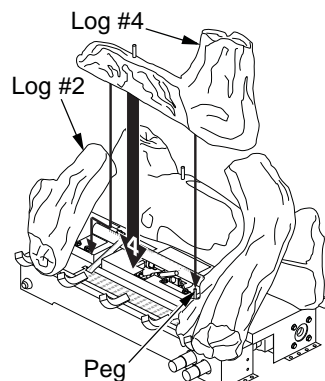
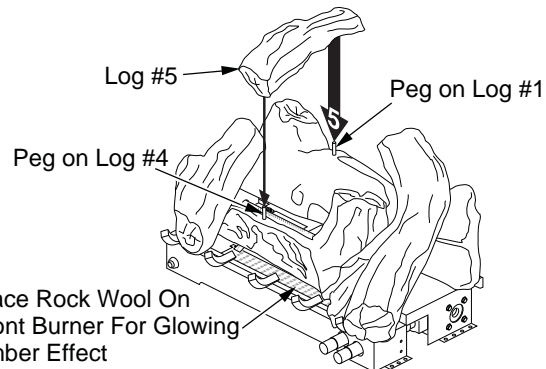

Figure 27 - Installing Front Log (#4)
Figure 28 - Installing Crossover Log (#5)
5. Align holes in bottom of crossover log #5 with pegs on top of rear log (#1) and front log (#4) (see Figure 27). It may be necessary to adjust log #4 to align holes with pegs. Place crossover log onto pegs (see Figure 28).